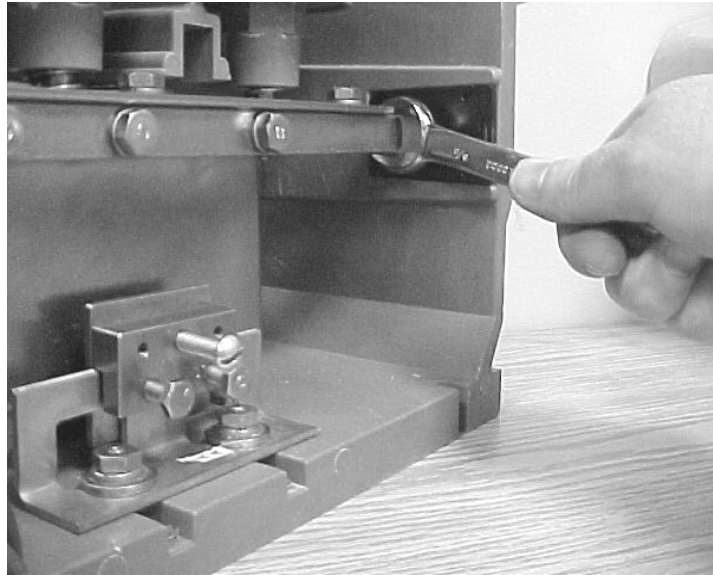

Figure 4.15 – Closing the Contactor with the aid of a wrench
3. Place a 5/8" wrench on the main shaft of the contactor, pull down and close the contactor (Figure 4.15) while finger-tightening the top middle screw on the clamping fixture. (Care should be taken not to bend the actuator stop plate).